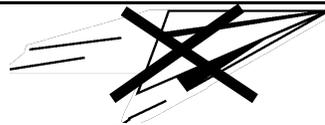

Fig.22
- Store this manual carefully for future information or consultation (Fig.22).